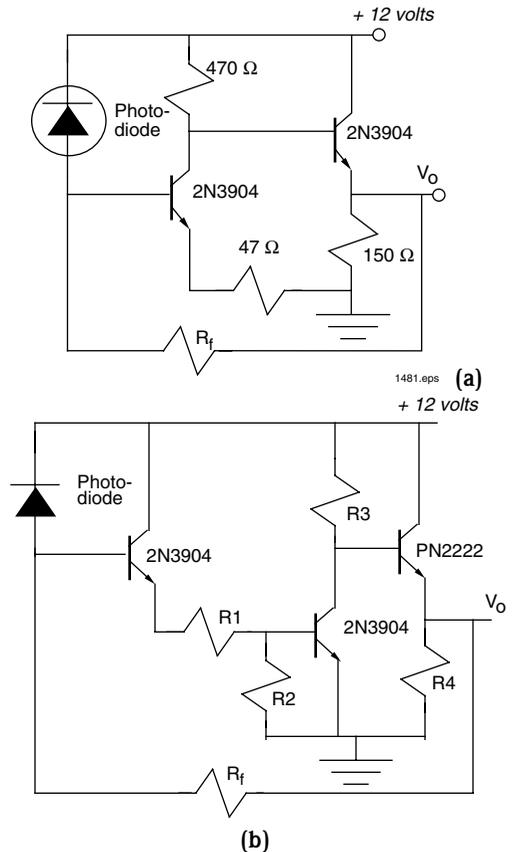

Figure 9.5 Fiber optic receivers using a discrete bipolar transistor.
Although operational amplifiers are readily available and easy to use, they sometimes lack the required frequency bandwidth for some applications. For these applications, discrete transistor amplifiers are often the answer. Examples of two discrete bipolar-transistor amplifier circuits are shown in **Figure 9.5**.
1. Replace the operational amplifier and associated circuitry on the breadboard with the circuit shown in **Figure 9.5 (a)**. Reposition the photodiode and device mount as needed.
Table 9.3 Measured data for various termination resistors, R_f , in the circuit shown in *Figure 9.5*.
Calculate the bandwidth of the bipolar transistor receiver in **Figure 9.5** using the 10 k feedback resistor installed.